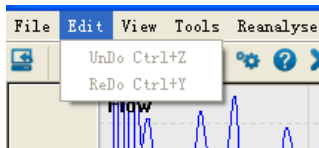

Figure 5.40
- 2) It contains “Undo Ctrl+Z” and “ReDo Ctrl+Y” in “Edit” menu, as shown in Figure5.40, click the option to undo or restore the waveform identification.